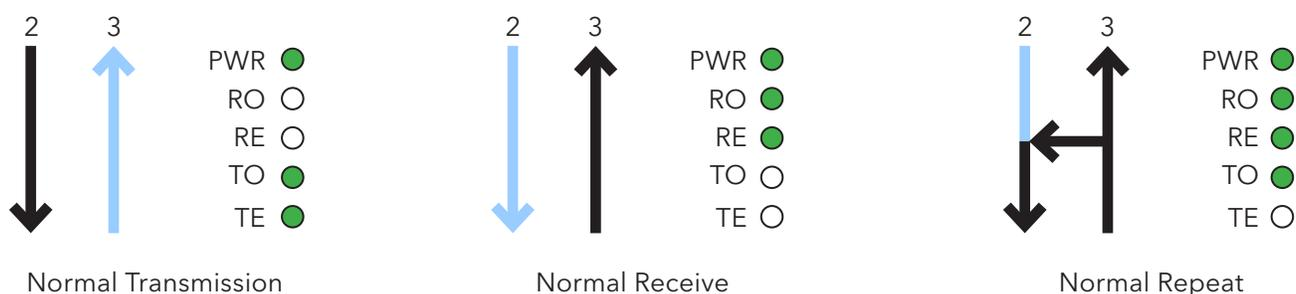

Figure 6. Diagnostic LED patterns and signal paths
Each Link/Repeater is equipped with four diagnostic/status indicating LEDs. They represent the electrical transmit (TE), optical transmit (TO), electrical receive (RE), and optical receive (RO) paths. These LEDs, when illuminated, indicate that the appropriate path is active. When the Link/Repeater is transmitting, both TE and TO LEDs will illuminate to indicate the transmit path is active. When the Link/Repeater is receiving light signals, both RO and RE LEDs will illuminate. If the unit is in the repeat mode and receiving light, the RO, RE and TO LEDs will illuminate, as the signal is being retransmitted out of the optical port, as well as being outputted to the electrical data D-connector. LEDs only illuminate when the path is active; powering on the unit does not illuminate the LEDs unless their path is active. When data is present on the paths, the LEDs may flicker; this is a normal condition. The diagnostic LEDs may also be used for troubleshooting, by observing that the illumination of the LEDs corresponds with activity in the unit. See Figure 6 for LED patterns and signal paths.